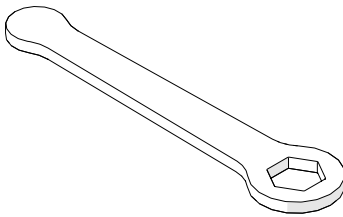

Fig. 17 - 3/8 in wrench
- ▶ The 3/8 in wrench removes, and installs pivot buttons on the probe holders (Fig. 17).